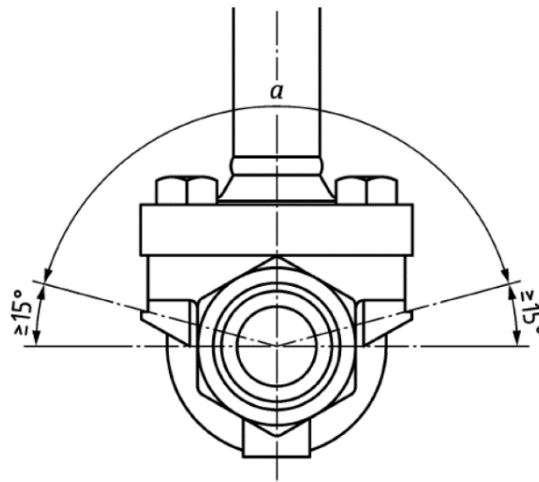

Figure 2 - Picture Extract from DIN EN ISO 28921-1:2017-05
- 4.2.3.8 Valves intended for cold box applications and equipped with an extended top for liquid applications must function with the stem at an angle of 15° to 90° above the horizontal plane (Figure 2).